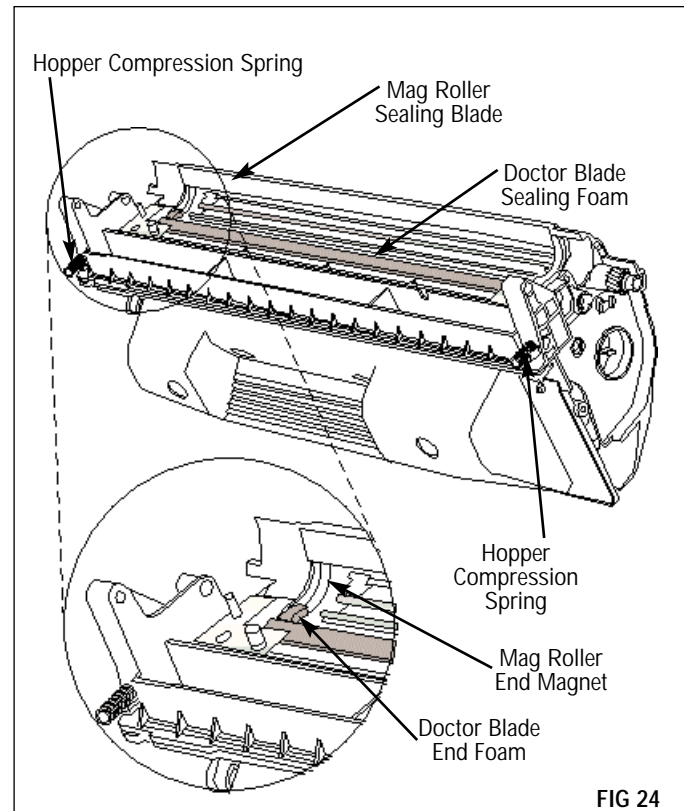

FIG 24
13. Inspect the sealing components in the hopper section and replace as required (FIG 24). Foam components such as the doctor blade end foam and doctor blade sealing foam should display a smooth, clean surface. Make sure the foam materials are secured in the correct position. Replace the foam components that are ripped, pitted or dislodged.